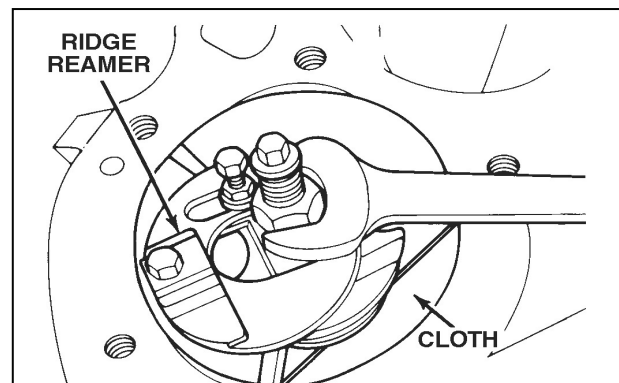

Figure 12-18 Removing Cylinder Ridge
Figures 12-18 and 12-19
C. Perform the cutting operation with J 24270 (figure 12-18).